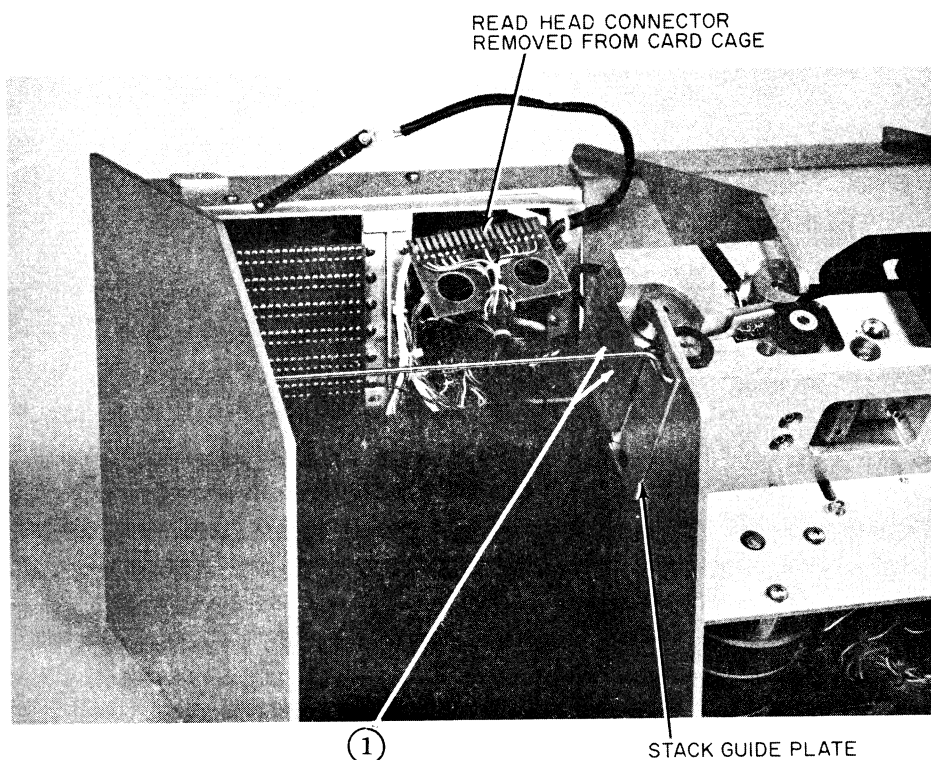

Figure 6-5. Location of Stack Photocell and Photocell Set Screw
- a. Using a 1/16 Allen screwdriver, LOOSEN the set screw in the stacker casting which retains the stack photocell ①, figure 6-5.